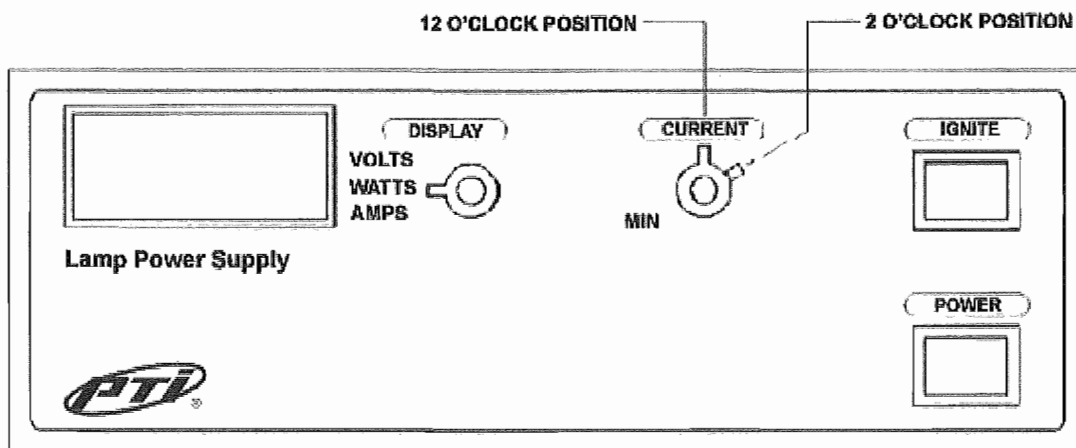

Figure 3 - Front Panel Settings
1. The lamp power supply connects directly to the lamp housing using the separate red and black cables supplied (figure 3). I.e., the igniter and igniter cable are not used.